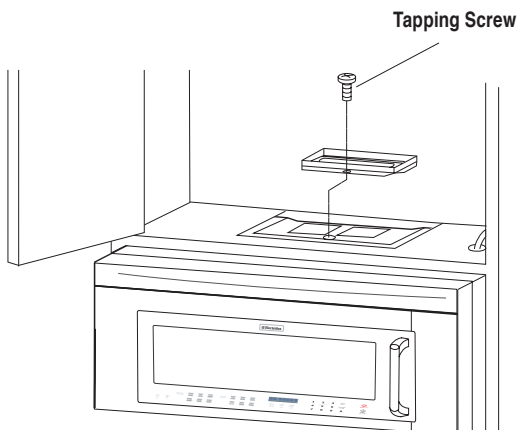

Figure 20
6. Attach the Exhaust Damper Assembly to the fan cover bracket on the top of the outcase cabinet after mounting the oven. To attach the Exhaust Damper Assembly, refer to MOUNTING OVEN TO THE WALL, See Figure 20 on page 7.